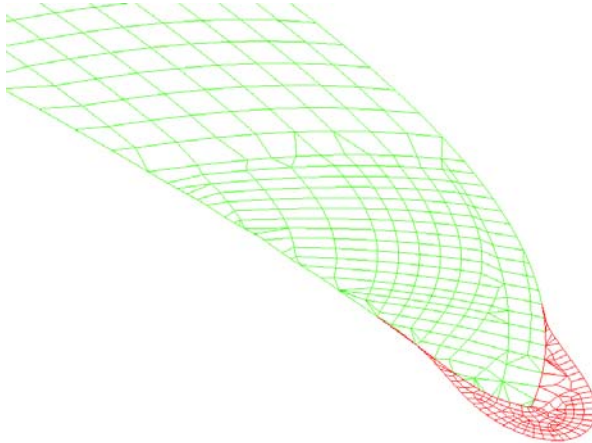

Figure 6.1.39 Corner Smooth
3. After a node is selected at a sharp corner, the program will generate a set of elements around the part boundary to form a circular shape around the corner. Figure 6.1.39 shows the result of a corner smooth operation.